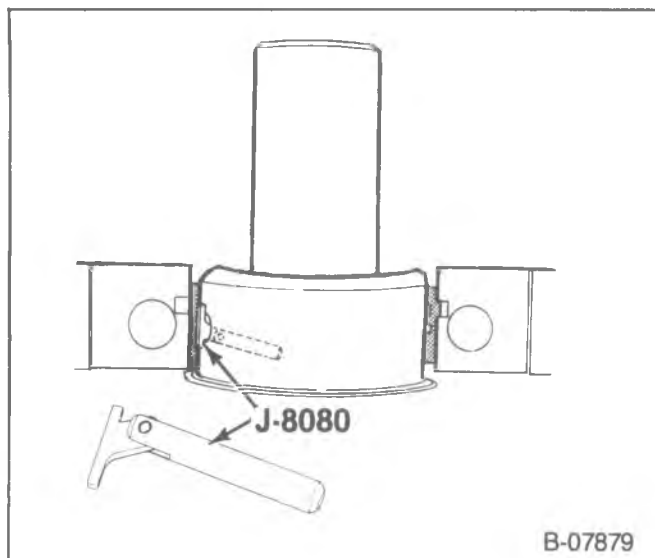

Figure 33—Removing the Main Bearing Insert
↔ Remove or Disconnect (Figure 33)
- Insert J-8080 into the crankshaft oil hole (figure 33).
→ Install or Connect (Figures 33 and 34)
- Insert J-8080 into a crankshaft main bearing oil hole (figure 33).
Install or Connect (Figure 33)